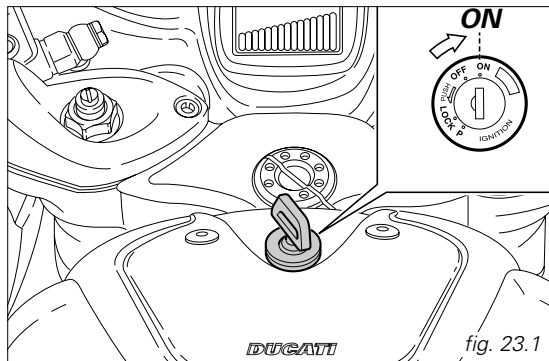

fig. 23.1
1) Move the ignition key to **ON** (fig. 23.1). Make sure both the green light **N** and the red light  on the instrument panel come on.